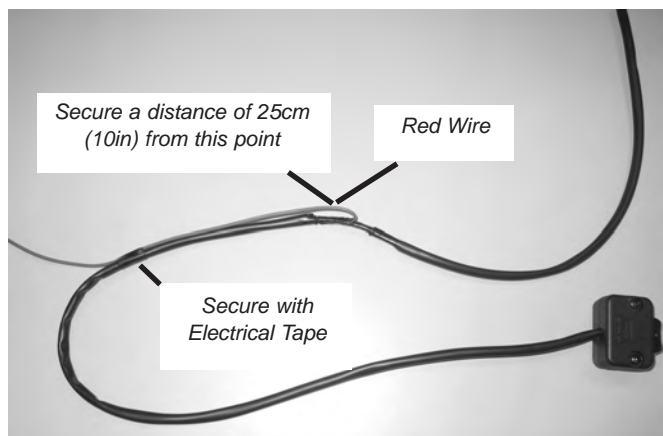

Figure 27 Red Wire - Tie-off 25cm (10in)
- Before installing the winch switch, route the red wire towards the switch case. Secure with electrical tape a distance of approximately 25cm (10in) from where the red wire protrudes from the back casing towards the switch case, figure 27. This will allow you to see the red wire when routing the switch wires, down the steering column, to the contactor.